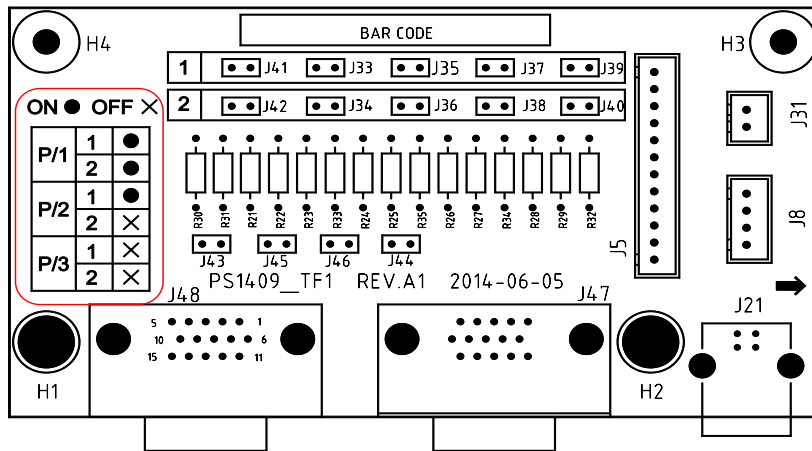

Figure5-13 Parallel board (PS1409_TF1)
2、 Depending on the number of parallel machines, and the corresponding short pin status on the board is different, as shown in Figure 5-13